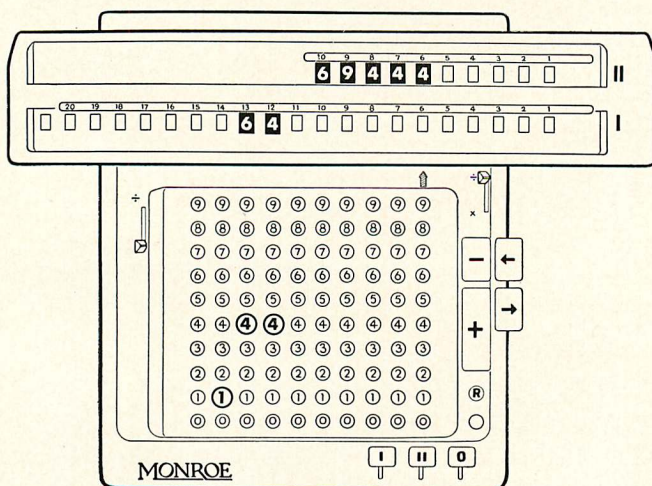

Figure 24
*Step 3*—Push divide lever. Note that on the first revolution of the machine the 144 is subtracted from the lower dials leaving only the 1 and the upper dials are cleared. In this case only 4 significant figures are required in the reciprocal so the automatic division should be stopped when it has been carried to 5 places. This is done by returning the divide lever to normal position when 5 of the upper dials are filled with figures. See Figure 24.